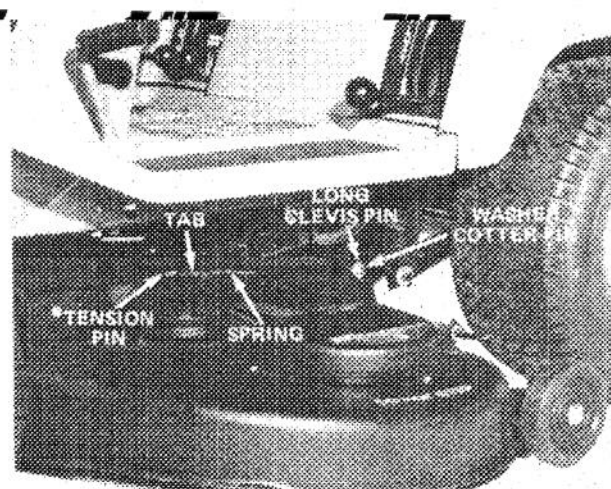

Figure 9
7. Push cutting unit rearward, align rear clevis pin holes and install long clevis pins (Fig. 9).
9. Pull tension pin forward, while pushing deck rearward, hook end on long clevis pin and secure with washer and cotter pin (Fig. 9).